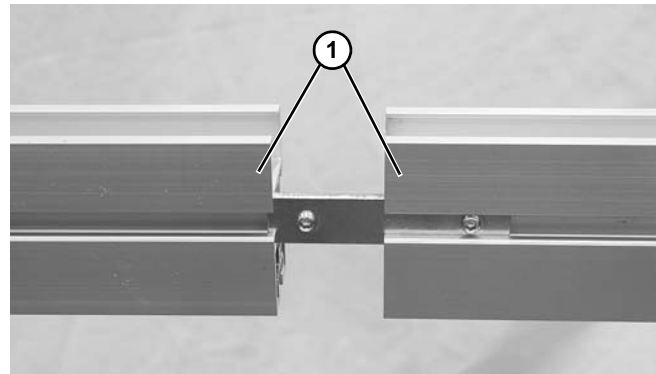

Figure 3
Be sure all frame sections (**Figure 3, item 1**) are properly supported during assembly.